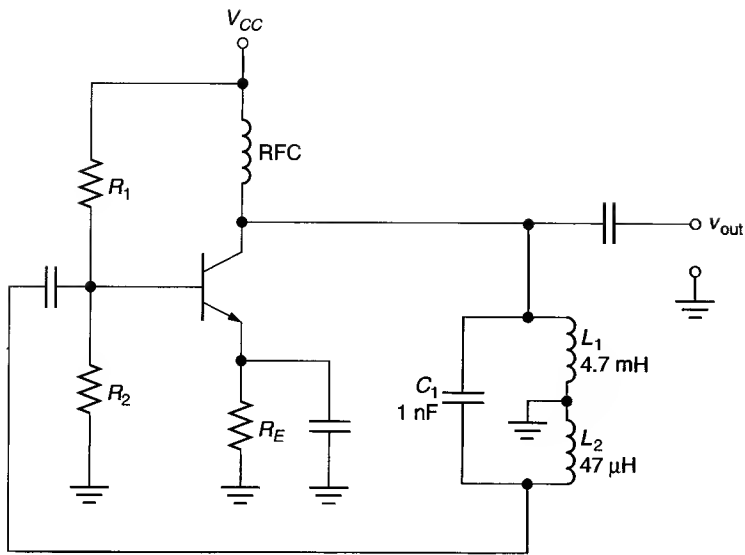

FIGURE 18.27
4. Calculate the value of α_v for the circuit shown in Figure 18.27.
8. Calculate the operating frequency, the value of α_v , and the value of A_v for the circuit shown in Figure 18.27.
9. A circuit like the one shown in Figure 18.27 has values of $L_1 = 0.1$ H, $L_2 = 1$ mH, and $C_1 = 22$ nF. Calculate the operating frequency, the value of α_v , and the value of A_v for the circuit.
15. Refer to Figure 18.27. Use circuit calculations to show that the circuit fulfills the Barkhausen criterion.